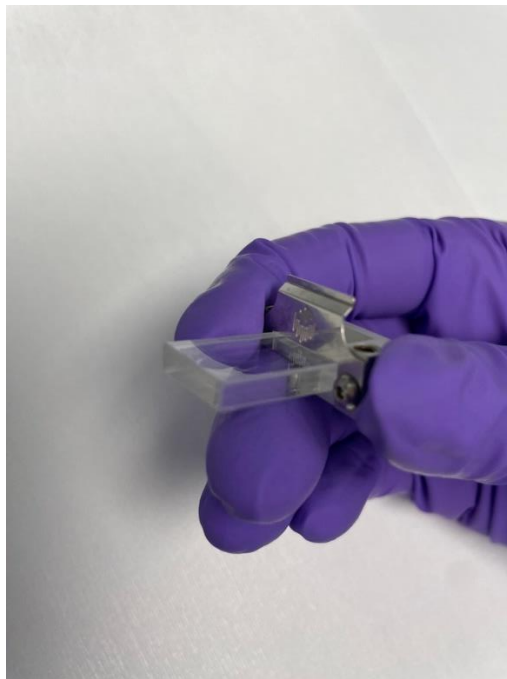

Figure 30 Chip Inserted into Top Interface
Step 3: Push the Chip into the slot in Top Interface ensuring the holes are facing upwards (Figure 30).